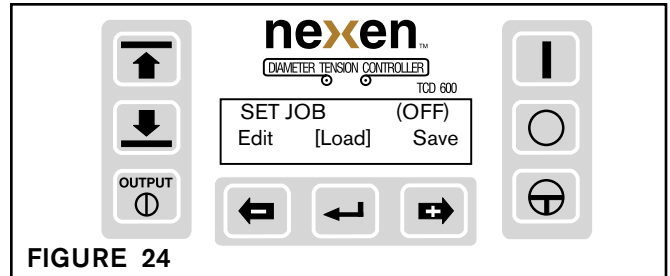

FIGURE 24
8. The display returns to Set Job. Press EDIT again to edit JOB 2, and repeat this procedure up to JOB 5 if needed. Or, press Load to recall previously saved job settings to use for a job you want to run now. Press the plus or minus button to select Load, then press Enter (See Figure 24).